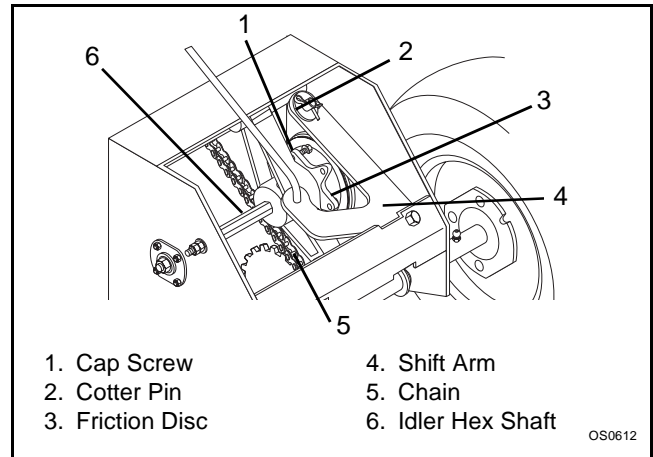

Figure 17
3. Loosen nuts on idler hex shaft (Figure 17). Adjust the idler hex shaft in slot as necessary. Torque the nut to 170-180 lbf-in. (19-20 Nm).